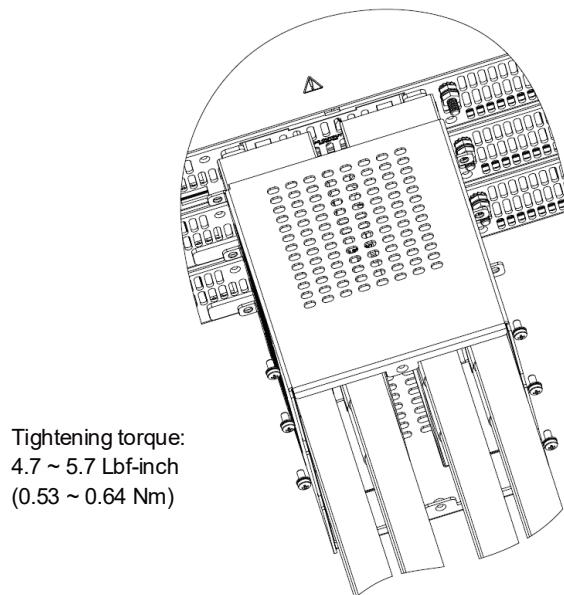

Figure 4-64: Assembly of 10V Wires Protection Cover
- Assemble the bus bars protection assembly to the rear panel of the power supply, by using 6 M3x8 Sems screws, as shown in Figure 4-64 (15kW is shown, it applies to 10kW as well. For 10kW, there are 4 screws only).